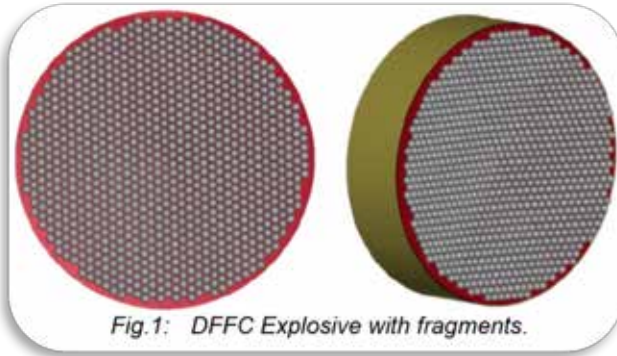

Fig.1: DFFC Explosive with fragments.
Fig. 1 - The DFFC explosive has a special design, featuring a predetermined quantity of spherical fragments positioned immediately ahead of a defined explosive mass, as illustrated in Fig.1.
**Introduction** - The DFFC explosive has a special design, featuring a predetermined quantity of spherical fragments positioned immediately ahead of a defined explosive mass, as illustrated in Fig.1. These compact spheres, approximately 10mm in diameter, has a significant hardness which is above 60 HRC. After the detonation of explosive, these fragments undergo very high acceleration, striking the target at very high velocities (around 2.5 km/s), resulting in localized damage.